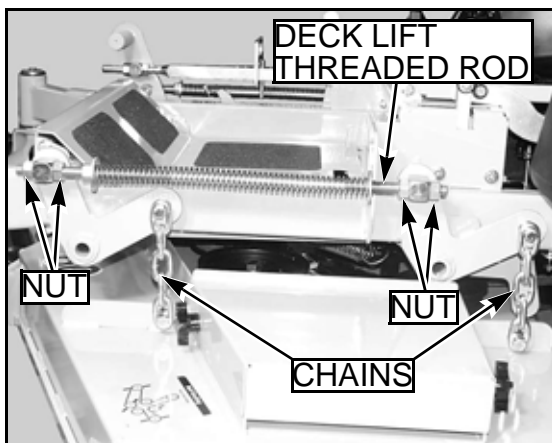
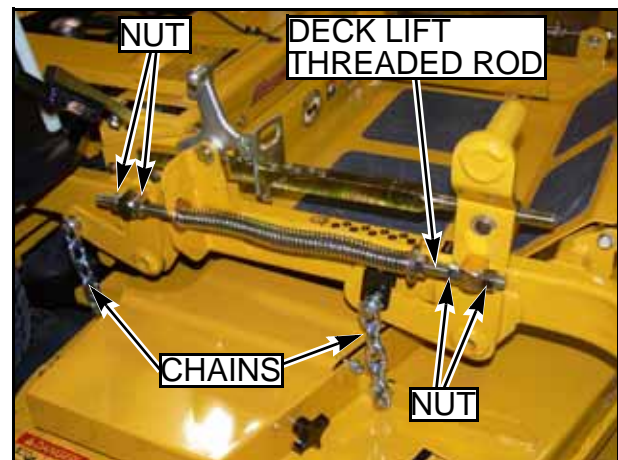
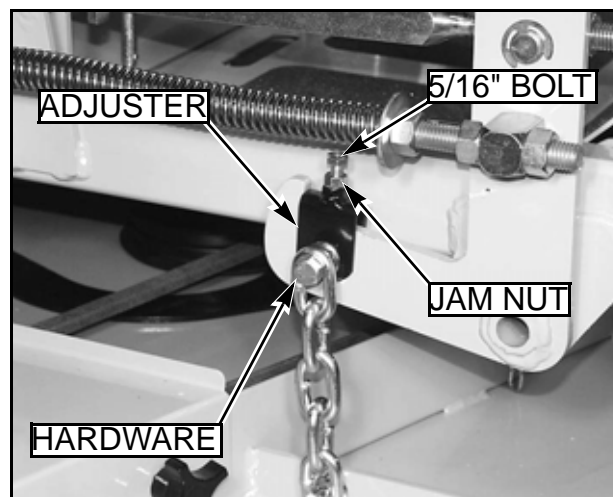

FIG. 92
FIG. 93
FIG. 94
6. Loosen all nuts on the deck lift threaded rods, and the hardware on the adjuster (on the right front), until all the deck lift chains are loose, and the deck is sitting tightly on all four blocks "FIG. 92", "FIG. 93", "FIG. 94".
14. Loosen the 5/16" jam nut on the adjuster lift chain "FIG. 94", and back the adjuster bolt out to allow the adjuster to move up and down freely.
17. Tighten the adjuster bolt jam nut to prevent the adjuster bolt from moving "FIG. 94".
20. Make sure that there is still slack in the chain. If not, loosen the two nuts on the block holding the threaded rod until there is slack in the deck lift chain "FIG. 93".
24. Make sure that there is still slack in the chain. If not, loosen the two nuts on the block holding the threaded rod until there is slack in the deck lift chain "FIG. 92".